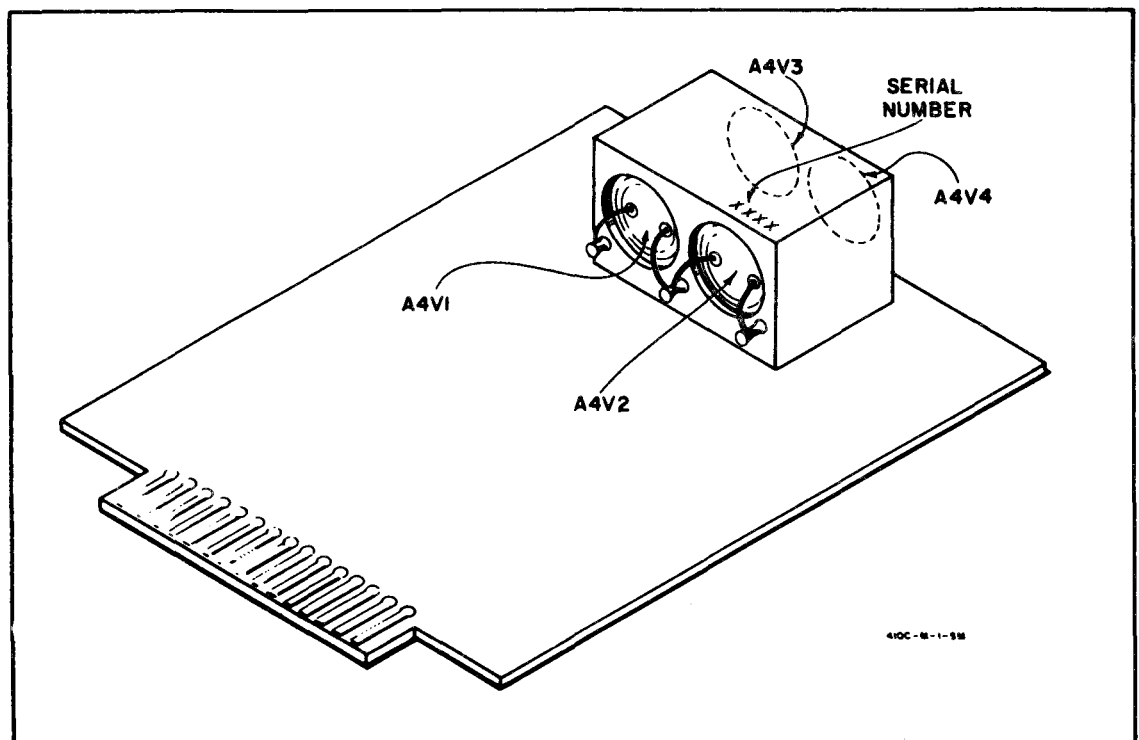

Figure 5-6. A4 Chopper Assembly Installation
a. Figure 5-6 describes the physical orientation of chopper assembly on printed circuit board. Note location of chopper assembly serial number in relation to circuit board pins.